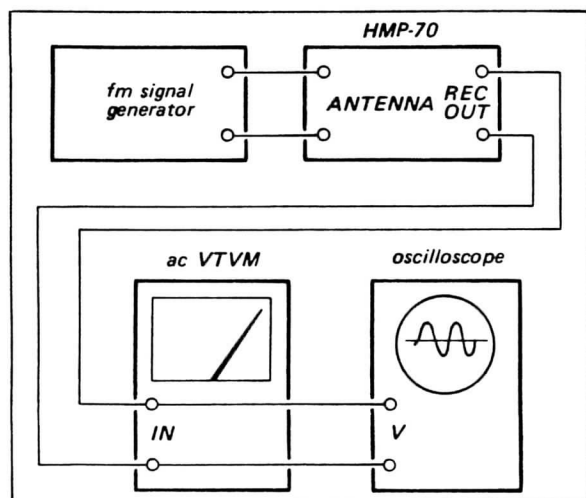

Fig. 3-7. Fm frequency coverage and tracking alignment setup
1. Connect the equipment as shown in Fig. 3-7.